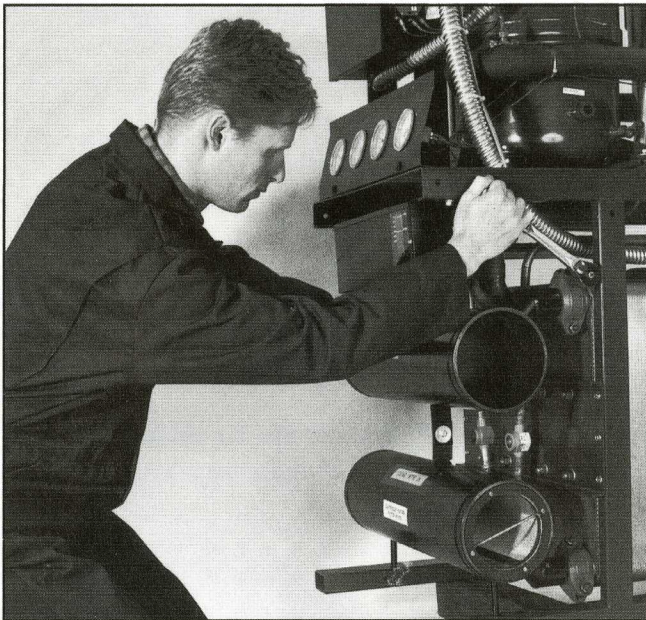

Figure 1: Removing header from heat exchanger.
- Remove end caps and drain the water from the condenser or evaporator (Figure 1).
- Remove the VICTAULIC COUPLINGS and HEADERS (Figure 1).